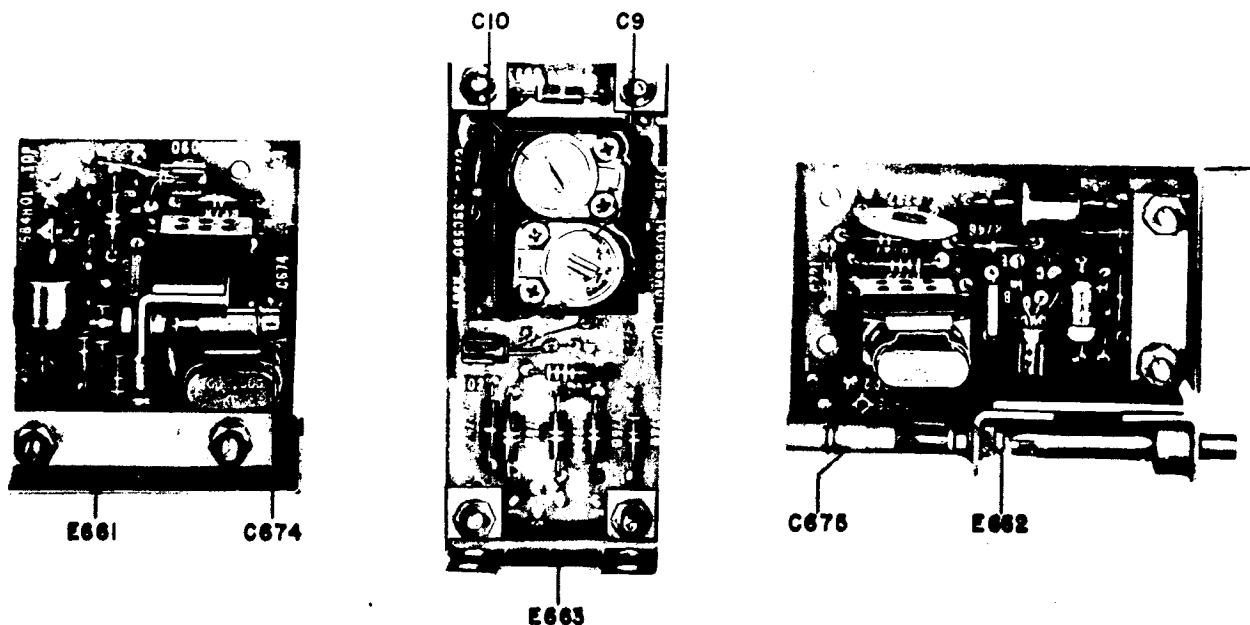

Figure 6-6. Electrical Frequency Control C-2861/WRT-1, Electrical Adjustments on Printed Boards E661, E662, E663
Step 1. Refer to figure 6-6 and locate assembly board E661. Note that the symbols of all components are clearly marked on the board next to each component.
(6) ADJUSTMENT OF CAPACITOR C683.